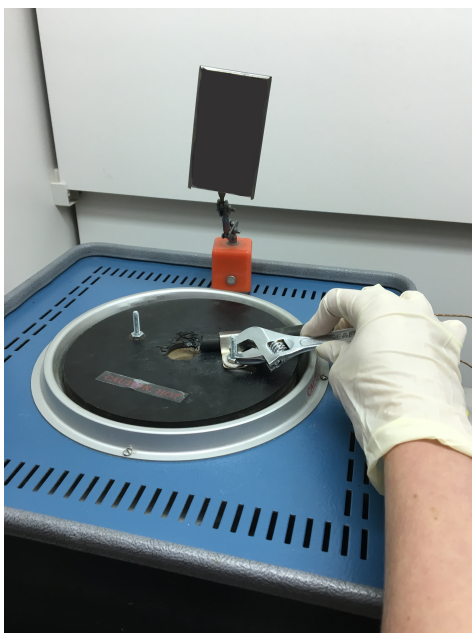

Figure 3: Position thermocouple 4 with the rubber hose and tighten
- \* Tighten the nut on the bracket hand tight and then give a half turn with a wrench to secure the nut (See Figure 3)